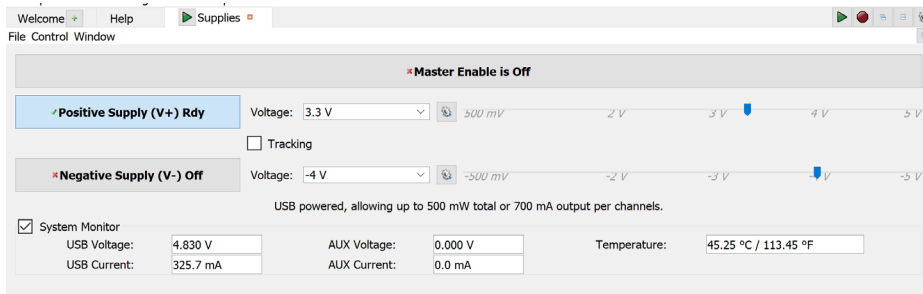

Figure 27: Using DAD Supplies
**Power your circuit (DC):** The DAD can use the power supplies to power your circuit with 3.3V. Open the Power Supplies and click on “Power Supply (V+) Off” to change it to Rdy as seen in Figure 27. Change the voltage to 3.3V. Click on “Master Enable is Off” to change it to On. To power your circuit, use the red V+ Power Supply wire. Use any of the black ground wires for ground.